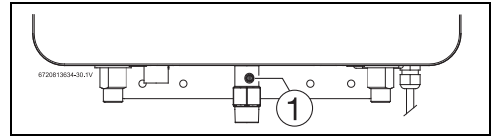

Fig. 35 Gas pressure test port
- ▶ Locate the inlet gas pressure test port (see Fig. 35).
- ▶ Loosen the screw inside test port fitting (do not remove) and connect the manometer tube to the test port (see Fig. 35).